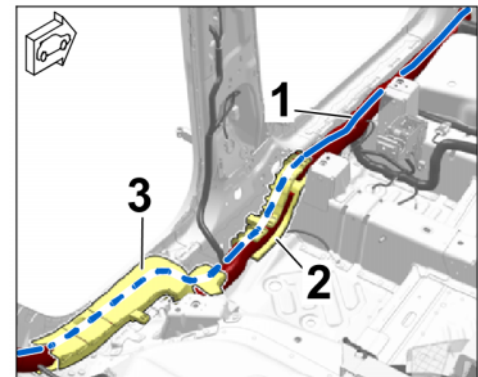

Figure 31
3.2.2 Door sill area, left (⇒ Figure 31)